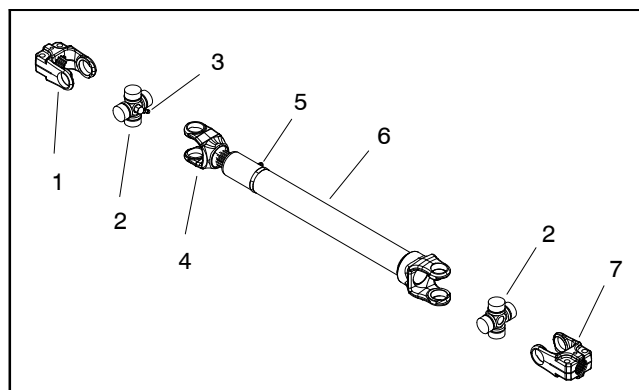

Figure 42
1. Position PTO drive shaft to machine. Make sure that drive shaft slip shaft yoke (item 4 in Fig. 42) is toward cutting deck gearbox shaft.